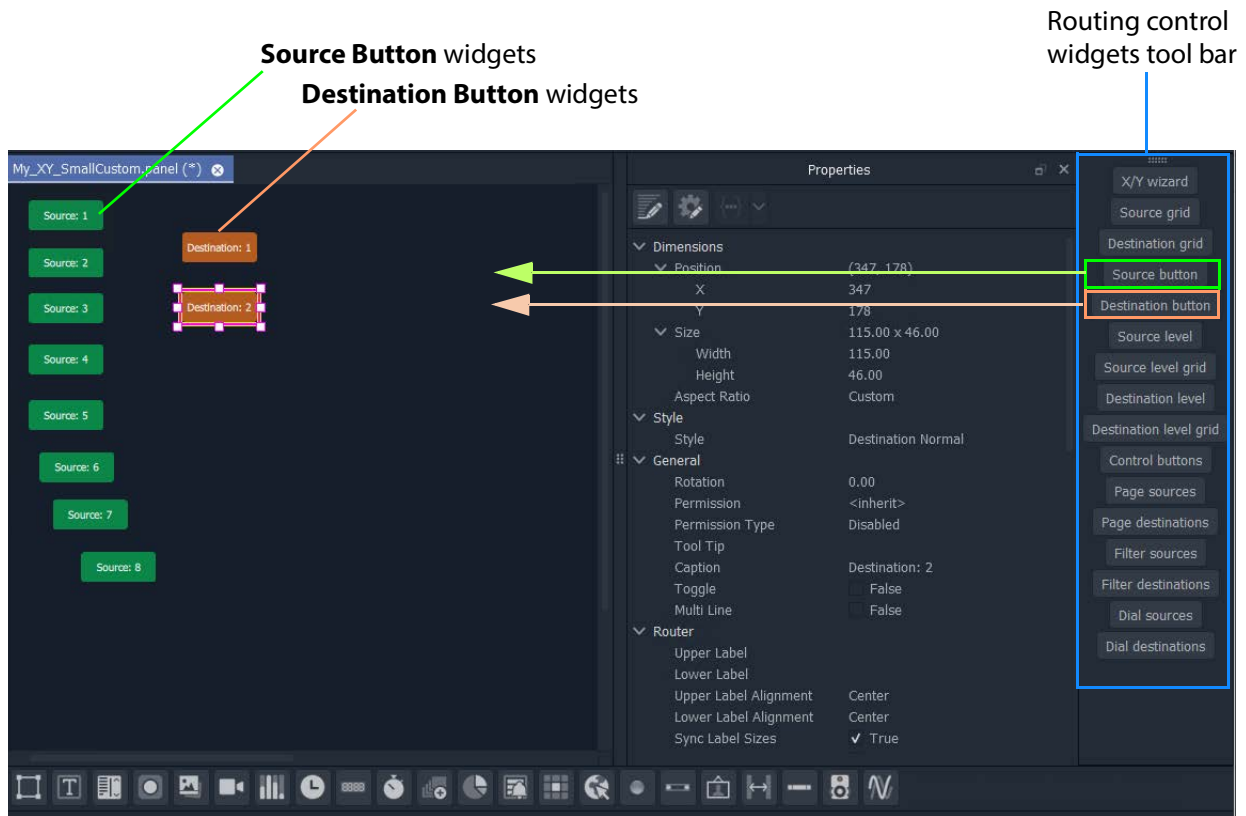

Fig. 14-41: Adding Source and Destination Buttons
- 1 Add 8 **Source Button** widgets from the Routing widget tool bar (see Figure 14-41). (Click on 'Source Button' button on the tool bar and drag on button widgets.)